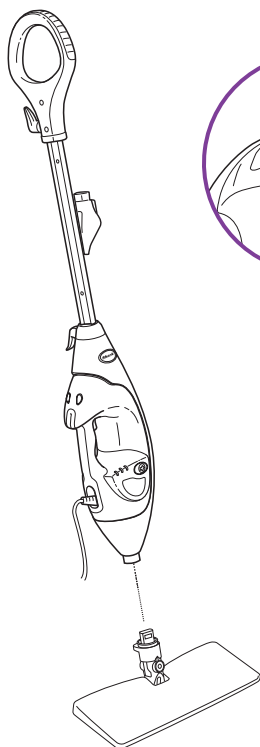

fig. 5
**5** Turn the water tank cap anticlockwise and remove from the tank. **(fig. 5)**